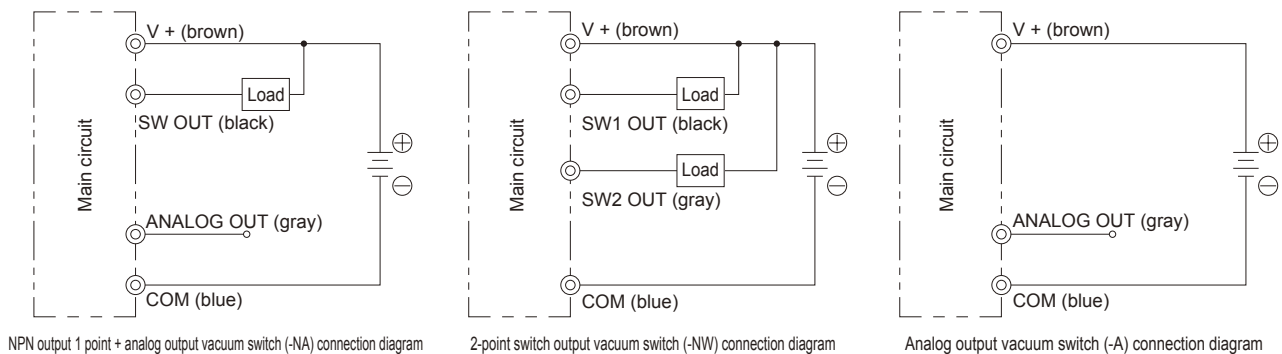

Fig. 1 Connection method
- (1) Turn power off before wiring.
- (2) Check lead color and terminal output when wiring.
- (3) Refer to Fig. 1 Connection method when connecting wires.
- (4) Do not apply strong tension or excessively bend to leads.
- (5) The cable is connected or disconnected from the connector. When disconnecting the cable, hold the connector, press down on the stopper and pull the cable out. Load is applied on the switch PCB each time the cable is connected or disconnected, so minimize the times this step is done.